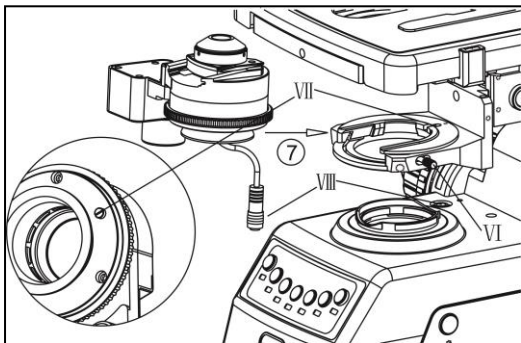

Fig 9
4-2-7 Install the Electric Condenser (fig 9)
Drop the small stent to the lowest location, and Inset condenser into the small stent according to the path ⑦ shown in the figure 9, until the VIII bolt piles into the VII slot completely. Then screwing in the VI slot to fasten the condenser according to the shown direction and stick electric condenser tightly.